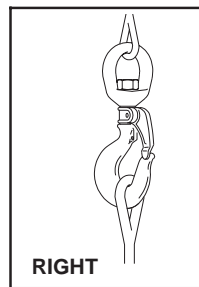
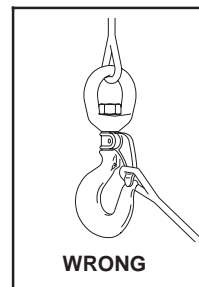

Figure 3
Figure 4
- Always make sure the hook supports the load. (See Figure 3). The gate must never support the load (See Figure 4).